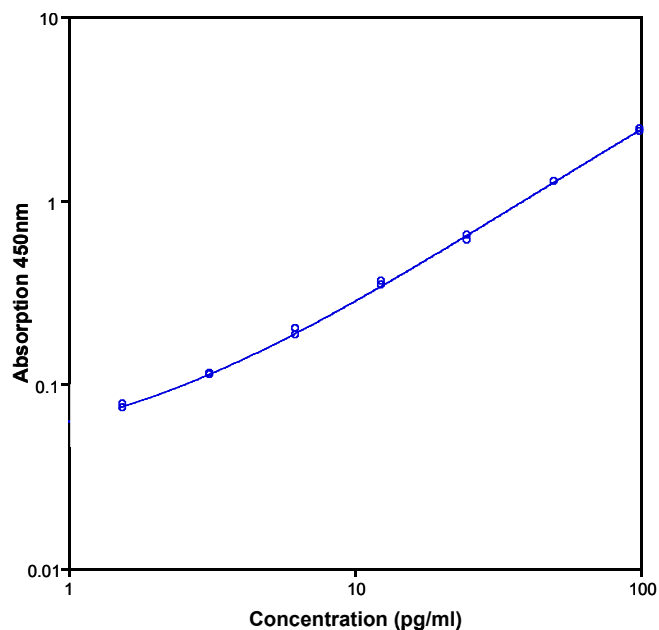

Fig. 8 Representative standard curve for Human IL-17A ELISA Kit. Human IL-17A was diluted in serial 2-fold steps in Sample Diluent.
- A representative standard curve is shown in Figure 8.